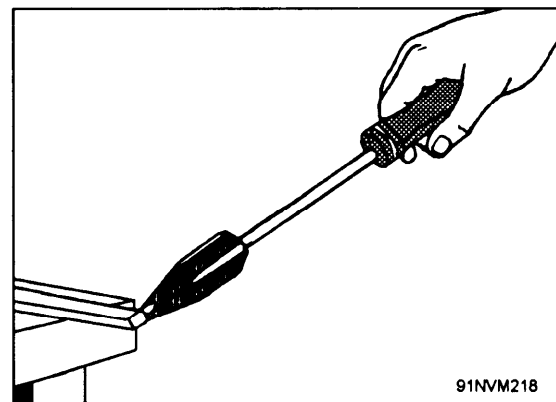

Figure 9-28.—Picking up solder.
6. Touch the solder with the hot bit so that a small amount of solder flows over the tip of the bit, as shown in figure 9-28.